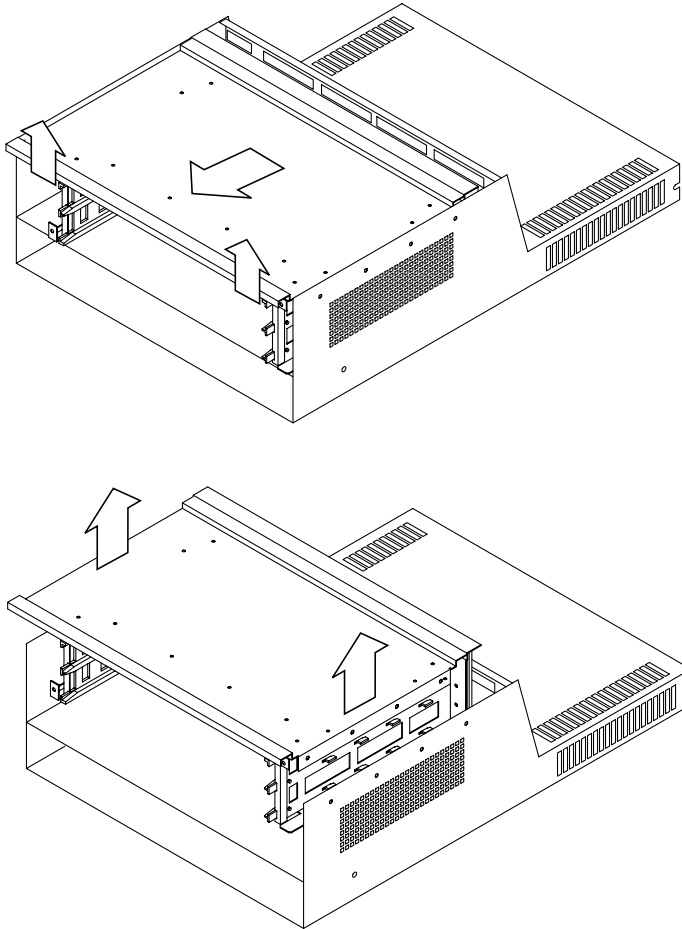

FIGURE 6-7 Removing the Controller Card Cage
4. Grasp and lift the top, front edge of the controller card cage slightly (about one inch) and pull the card firmly toward the front until the connectors on the controller back panel exit the holes in the rear shield (FIGURE 6-7).
8. With the back panel facing the rear shield, set the new controller card cage into the chassis (reverse the steps in FIGURE 6-7).
Note – There are four holes in the bottom frame of the controller card cage that fit over four mounting pins in the top of the battery retainer shelf (FIGURE 6-7). When you slide the controller card cage into place, you will feel it drop down when the pins slip into these holes.